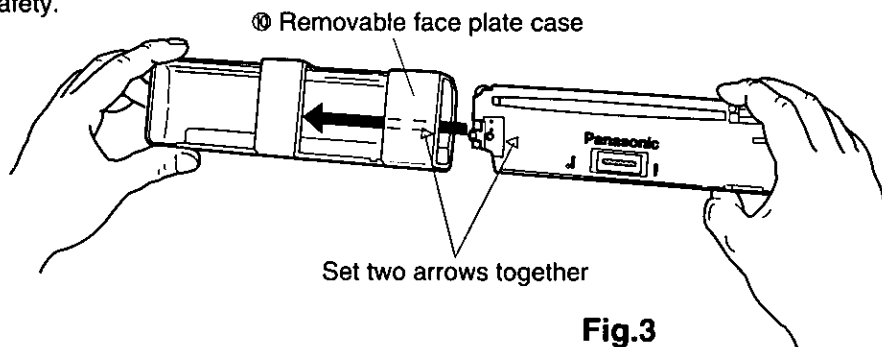

Fig.3
④ As shown in Fig.3, insert the removable face plate with the arrow pointing toward the removable face plate case until you hear a "click". Keep the removable face plate in the case. Then, you can bring the plate safety.